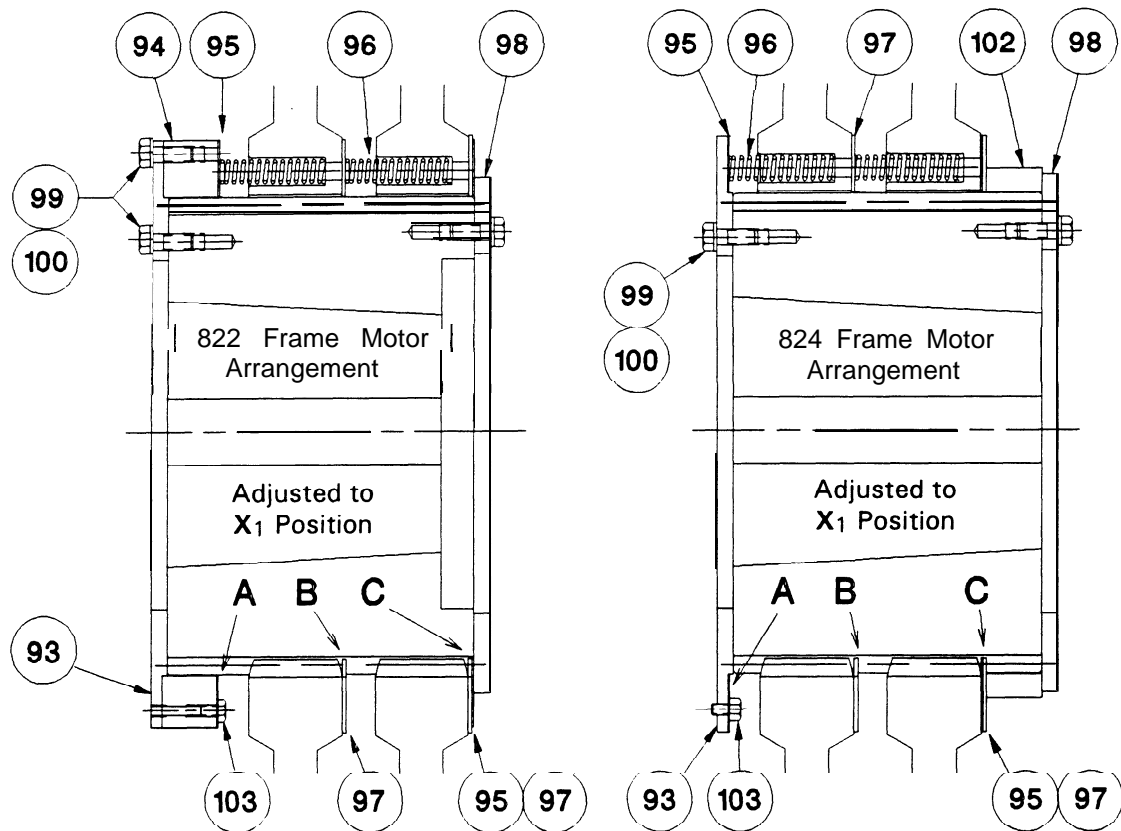

Fig. 12
① See Figures 12 and 13 for spacer locations.
② Quantity of each spacer plate (95)(97) required at this location.
4. 2. 10 Using the value obtained by measuring the gap "X" in 4.2.1, refer to Table 3 and Figure 12 and determine the proper quantity and location of the spacer plates. Install the remaining spacer plate (95) - if applicable - against the front plate (93) (or spacer (94) in 822 motor frame arrangements). See position "A" on Figure 12. Apply **Loctite® #242** to the threads of the screws (103) and reinstall in the front plate or spacer. Torque the screws to 75 lb.-in.
4. 2. 14 Referring to Table 3, install the required number of spacer plates (97) onto the gear and against the disc - if applicable. See position "B" on Figure 12. The number of spacer plates (97) installed at the location described here should be equal to the number of spacer plates (95) that remain installed in 4.2.10.
4. 2. 16 Install the remaining spacer plates (95, 97) onto the gear. See position "C" on Figure 12. On 824 Frame motor applications, also install the spacer plate (102) onto the gear.